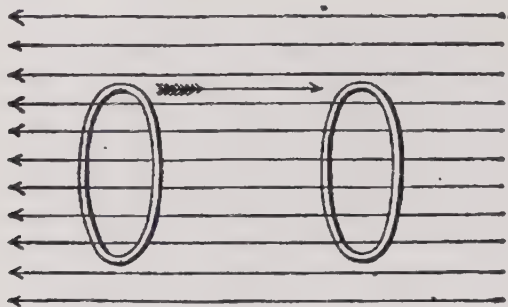
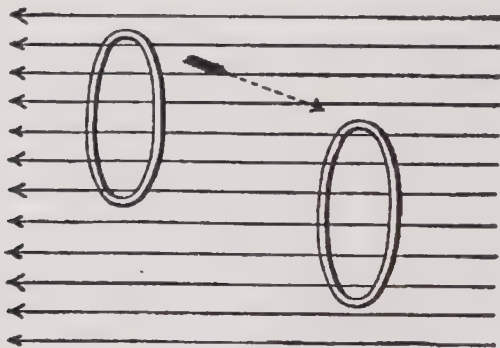

Fig. 149. Ring Moving in Field of Force Without Cutting Lines of Force.
Fig. 150. Ring Moving in Field of Force Cutting Lines of Force Without Change of Interlinked Lines.
*Examples of Interlinking.*—Assume a uniform field of force and let a ring of conducting material be moved in it. The cuts, Figures 149 to 152, illustrate several conditions, the motion of the ring being indicated by the arrows.
In the case illustrated by Figure 149 the ring is swept through the field of force, but cuts no lines of force, as its motion is parallel to them. Therefore no electro-motive force is impressed upon it. In the case shown in the next cut, Figure 150, lines of force are cut, therefore electro-motive force is impressed; but as the num-